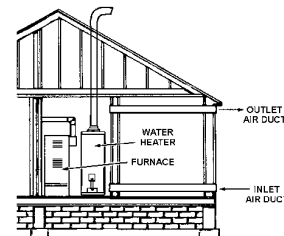

FIGURE 9.
3. When communicating with the outdoors through horizontal ducts, each opening shall have a minimum free area of 1 square inch per 2,000 Btu per hour (11 cm²/kW) of total input rating of all equipment in the enclosure, see Figure 9.
4. When ducts are used, they shall be of the same cross-sectional area as the free area of the openings to which they connect. The minimum short side dimension of rectangular air ducts shall not be less than 3 inches (7.6 cm), see Figure 9.